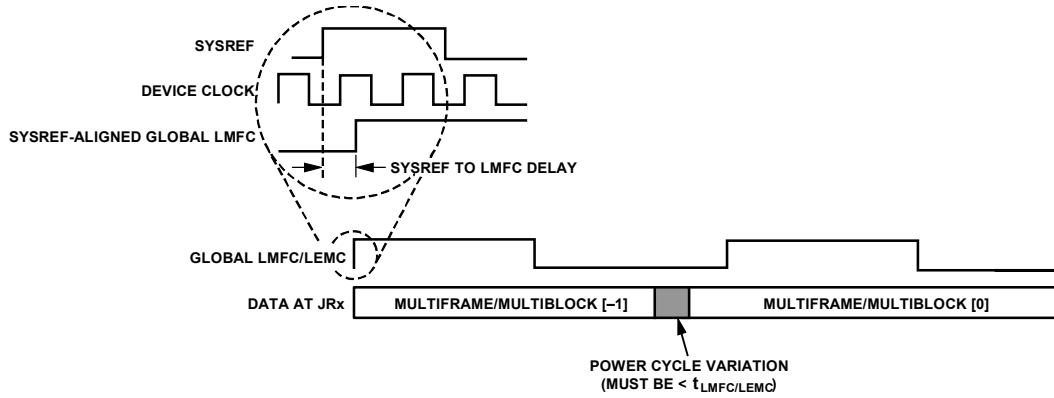

Figure 57. SYSREF and LMFC/LEMC
The JESD204B/C protocol organizes data samples into octets, frames, and multiframe (or multiblocks), as described in the Transport Layer section. The LMFC/LEMC is synchronous with the beginnings of these multiframe/multiblocks. In Subclass 1 operation, the SYSREF signal synchronizes the LMFC/LEMCs for each device in a link or across multiple links. Within the AD9081 and AD9082, the SYSREF signal also synchronizes the internal sample dividers. This synchronization is shown in Figure 57. The JESD204B receiver uses the multiframe boundaries and buffering to achieve consistent latency across lanes (or across multiple devices) and to achieve a fixed latency between power cycles and link reset conditions. Similarly, the JESD204C receiver uses the extended multiblock boundaries and buffering to achieve consistent latency.
- ▶ The total latency variation across all lanes, links, and devices must be  $\leq 1$  LMFC/LEMC period (see Figure 57). This variation includes both variable delays and the variation in fixed delays from lane to lane, link to link, and device to device in the system. For more requirements regarding latency variation related to the device JESD204B/C receiver, see the Deterministic Latency Requirements section.